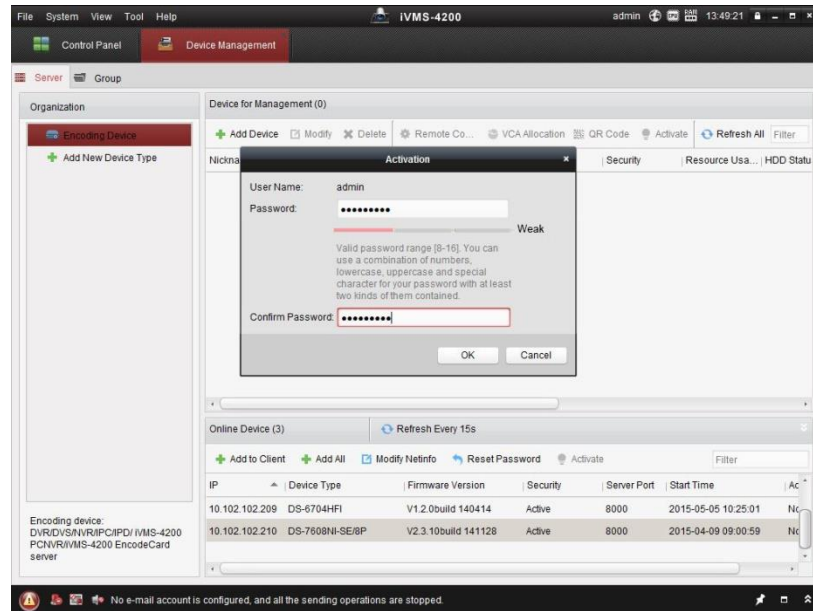

Figure 31 Weak (Adequate) Password Strength
- Activation will be allowed if the password is of acceptable strength **(Figures 31, 32, and 33)**.
- The DVR’s/NVR’s status will change to “Active” **(Figure 31)**.